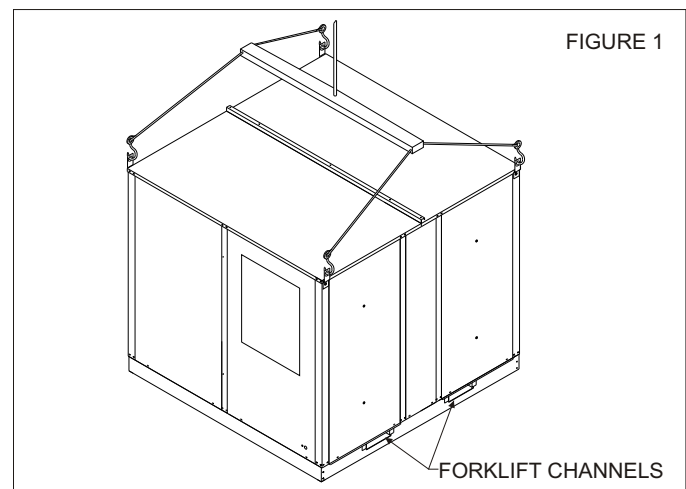

FIGURE 1
7. Forklift channels (if used) must be removed from the base of the ERV before setting unit on curb. **See Figure 1.**